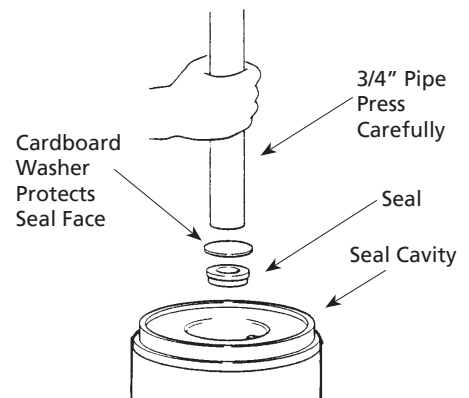

Figure 19 - If Necessary, Press With Cardboard And Pipe
7. If seal does not seat correctly after recleaning cavity, place a cardboard washer over polished seal face and carefully press into place using a piece of standard clean 3/4" pipe as a press (See Figure 19).